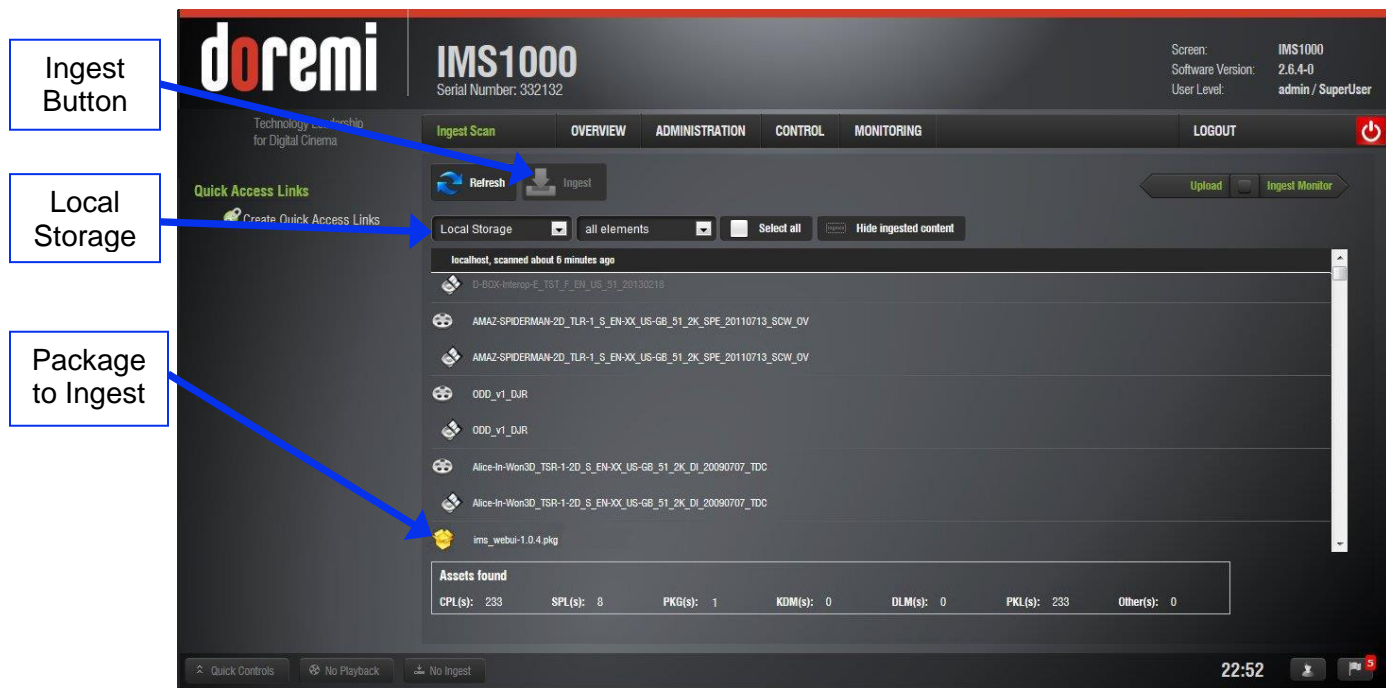

Figure 341: Ingest Scan Window
- Log onto the IMS1000 and go to Control → Ingest → Ingest Scan (Figure 341).
- Select Local Storage (Figure 341).
- Select the package (Figure 341).
- Click Ingest (Figure 341).